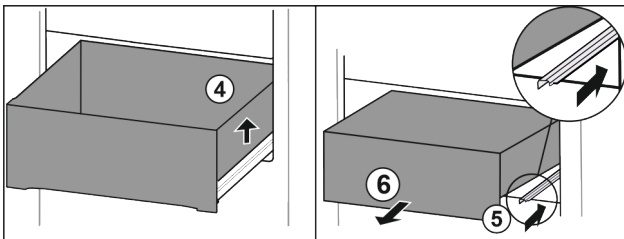

Fig. 63
- ▶ Lift drawer on the right. Fig. 63 (4)
- ▶ Insert right rail. Fig. 63 (5)
- ▶ Remove drawer to the front. Fig. 63 (6)